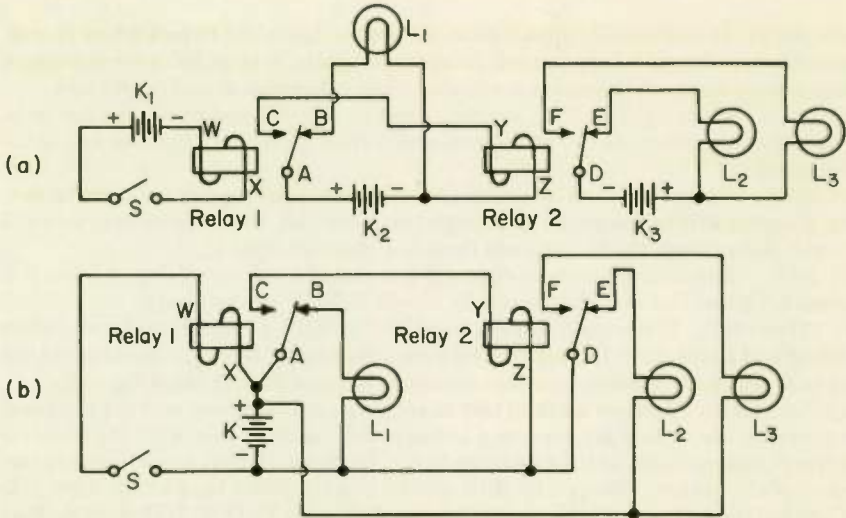
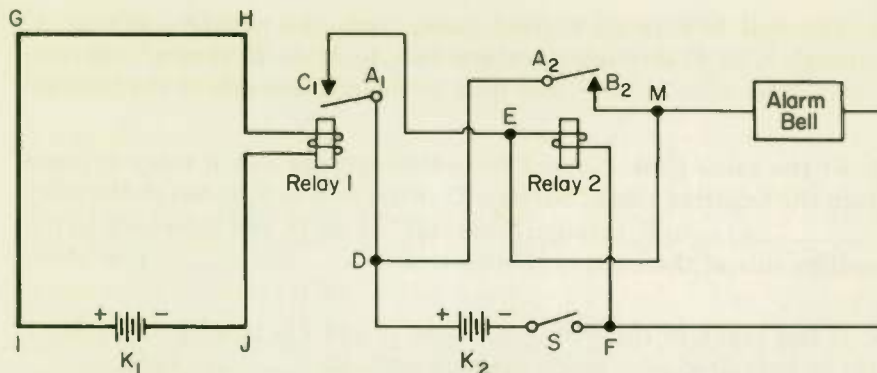

Fig. 19 One relay can operate another.
Fig. 21 A simple burglar alarm system. The contacts of relay 1 are shown in their energized position.
CIRCUITS WITH MORE THAN ONE RELAY . . . Closing one relay in an electronic circuit will often energize another relay and cause it to close in turn. Figure 19(a) is a circuit of this type. By answering the following questions you will understand how the circuit works.
1. When switch S Fig. 19(a), is open, the relay contacts are as shown
in Fig. 19(a). Contacts A and B are together and contacts _____ and _____ are together.
11 USING ONE BATTERY TO DO MORE THAN ONE JOB . . . It is not necessary to have three separate batteries as shown in Fig. 19(a). Figure 19(b) is the same circuit as that of (a), except that a single battery, *K*, is used to run everything. To see how it works with a single battery, go through the seven steps above once more, this time looking at Fig. 19(b). The text and answers to blanks will be exactly the same, except that *K₁*, *K₂*, and *K₃* should each be changed to read *K*.
- Do the relays in Fig. 19(b) close at exactly the same time?
- In Fig. 19(a) lights *L₁* and *L₂* are lit and *L₃* is out, both when switch *S* is closed and when it is open. Which of the following are possible troubles? (More than one may be the correct answer.)
- In Fig. 19(b) when the switch is open, light *L₁* is on but *L₂* is not. When the switch is closed, light *L₁* goes off and light *L₃* comes on. Which of the following might be the trouble? (More than one might be.)
4. In Fig. 19(b) bulbs L_1 and L_2 light when the switch is open. When the switch is closed, L_1 goes out and L_2 continues to burn. Bulb L_3 is out when the switch is open or closed. Which of the following are possible causes of the trouble?
12 RELAY APPLICATION: THE BURGLAR ALARM . . . Why would you want one relay to control other relays as in Figs. 19 and 20? One answer is the burglar alarm system of Fig. 21. The wire *GHIJ*, shown in the figure by the heavy line, is run around the inside of the building, across all doors and windows, so that it is impossible to enter the building through a door or window without opening the circuit by which battery K_1 feeds current to the coil of relay 1. The switch S , inaccessible to the burglar, is closed at night, putting the alarm system on the job. If anyone enters a door or window while S is closed, the alarm bell starts to ring. Having set the alarm off, the burglar can't stop it ringing by quickly closing the door by which he entered, so as to close the circuit again. Switch S must be opened in order to stop the alarm bell after it has once started ringing. The following Questions will show you how the circuit works: